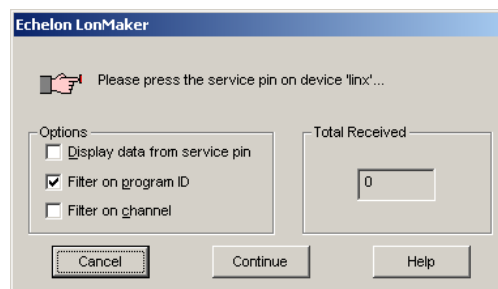

Figure 105: Wait for the service pin from the device.
7. Then the service pin requestor opens as shown in Figure 105. Press the service pin on the replacement L-INX on the correct port. You can also send the service pin using the Web interface (see Section 4.1).